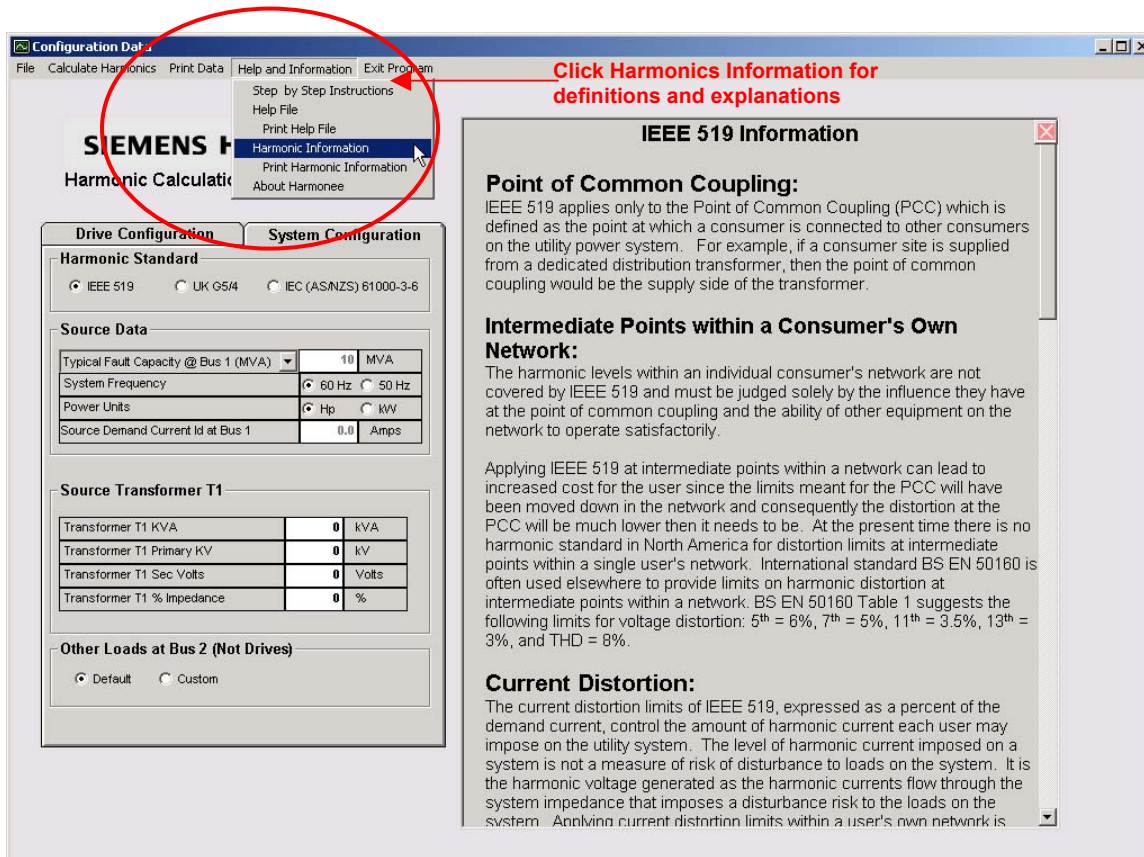

Figure 4 -- Help and Info, Harmonics Information Link
- Also within this important menu item is a **Harmonics Information** section (see Figure 4). This section covers key IEEE519 standard definitions and explanations (somewhat like a glossary of key terms). For example, Point of Common Coupling, in laymen terms is where a utility connects or meets up with the outside world, which is the key area of concern for IEEE519 standards.